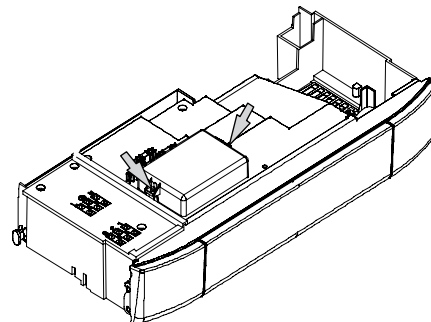

Figure 12.12
- Remove the two screws shown in Figure 12.12 and open the **outdoor reset** connection terminal board.